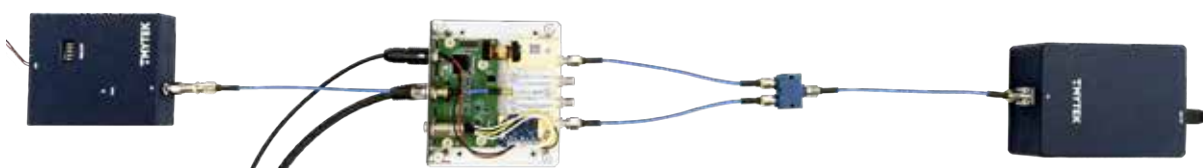

Figure 7. Configuration
- f. Repeat steps b. to e. on channels 1&3 and 1&4 as shown in Figure 7.